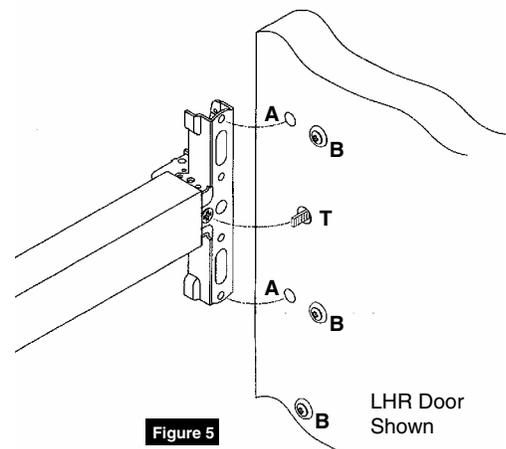

Figure 5
6. Mount trim to door through holes "B". Fasten, finger tight only, with three (3) screws and washers seating on door, as shown. (Figure 5) Bottom screw and washer engages lower post on pull.
8. Seat device so that trim spindle engages vertical cam slot, as shown. (Figure 5) Continue as shown in device instructions.